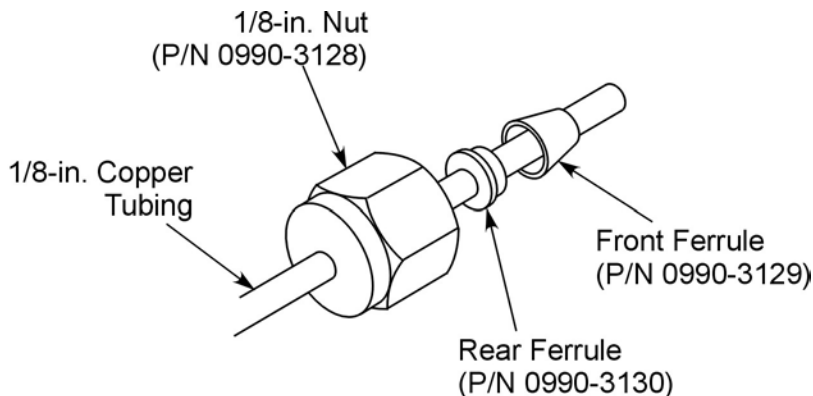

Figure 10. Components of a 1/8-in. tubing connection.
5. Place a 1/8-in. nut, a 1/8-in. rear ferrule, and a 1/8-in. front ferrule over each end of the copper tubing as shown in Figure 10.
2. Insert a 1/8-in. nut, a 1/8-in. rear ferrule, and a 1/8-in. front ferrule over the end of each piece of copper tubing as shown in Figure 10.